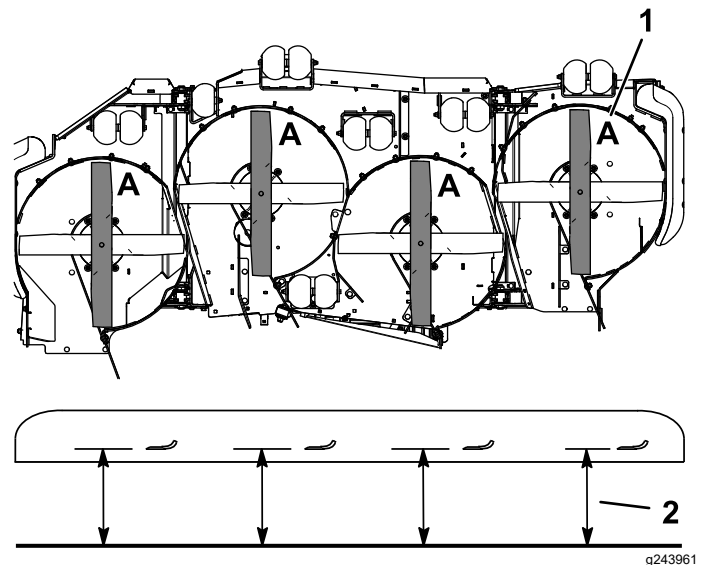

Figure 79
3. Rotate the blades until the ends face forward and backward (Figure 79).
4. Measure from a level surface to the cutting edge, position A, of the blades (Figure 79).